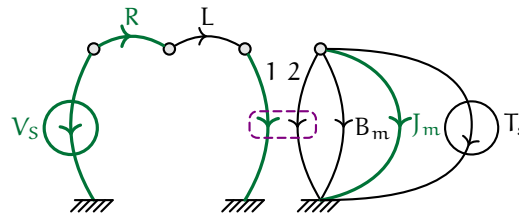

Figure curves.1: a linear graph model of the motor from Lecture 04.4 emech.real in a test-configuration with a brake modeled by T_s .
- 3 Including a torque source T_s on the load changes the model only slightly, as shown in Figure curves.1. Note that the mechanical subsystem is reduced to only the motor, since during such a test the load and bearings would be detrimental (it is a test for the *motor*, after all). Invariant are the normal tree, state variables, and most of the derivation of the state equations.